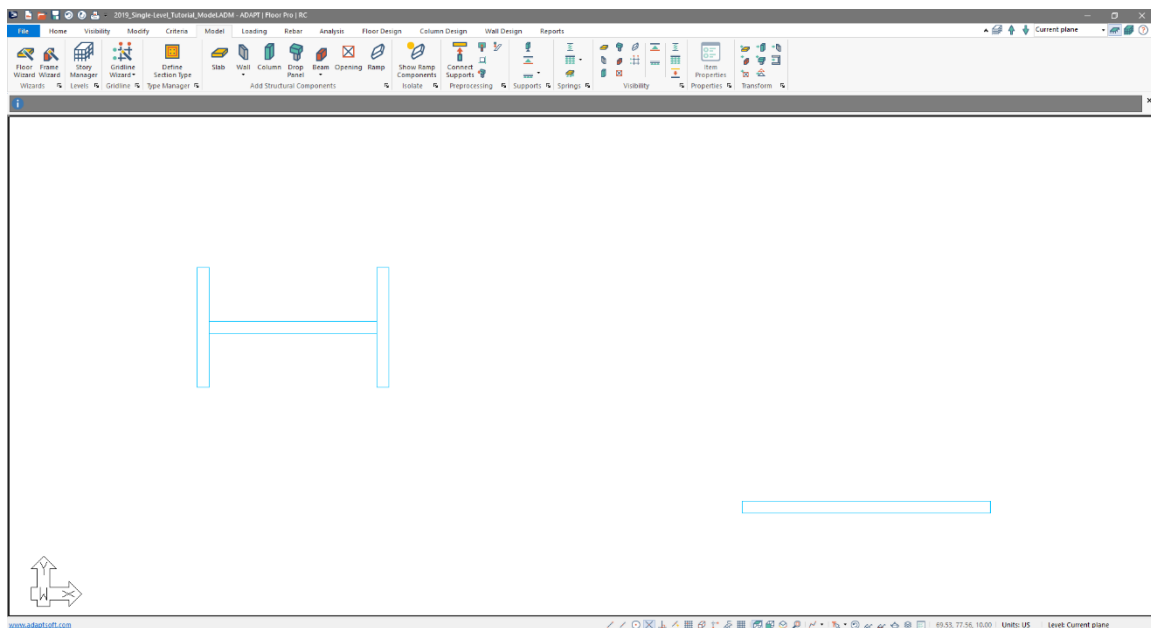

Figure 2-32
- Select the other wall and click **Delete** on your keyboard. After doing so we should have our lower walls input as shown in **FIGURE 2-32**.